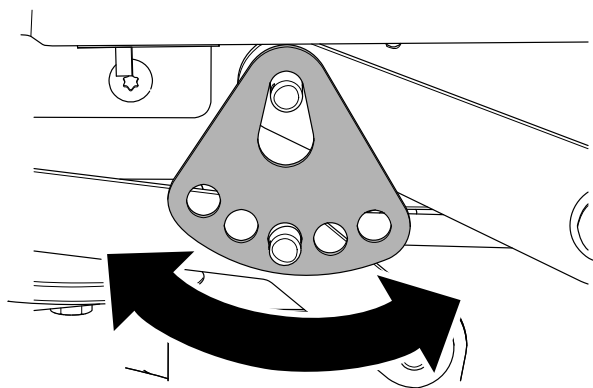

**Figure 62**
6. Remove the hairpin cotter and washer from the lower lift-arm pin (Figure 62).